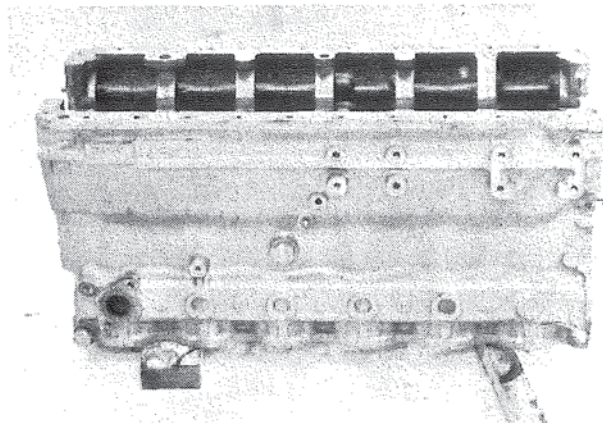

Figure 47. Preparing for Reassembly.
2. Place cylinder block on its top. Figure 47.